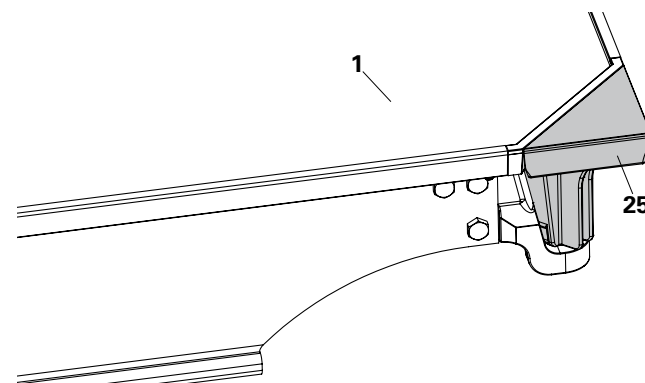

Fig. A2.20
3. The corner insert AD (**25**) is now secured in locked position. (Fig. A2.20)